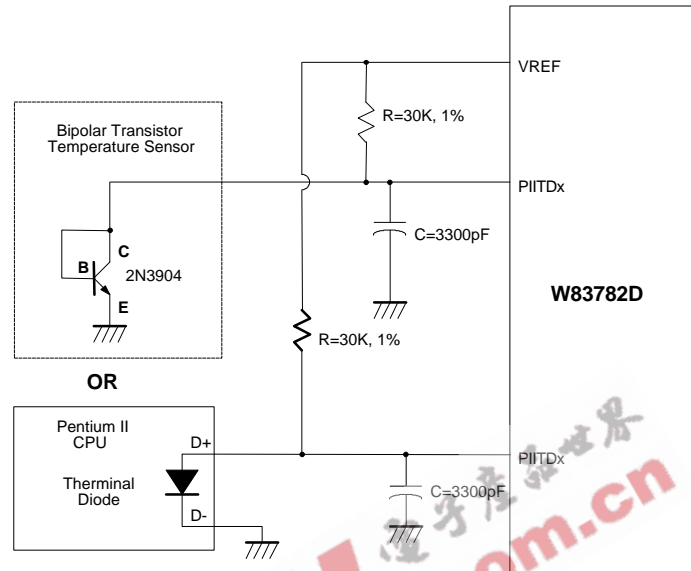

Figure 12.
The W83782D can alternate the thermistor to Pentium II™ (Deschutes) thermal diode interface or transistor 2N3904 and the circuit connection is shown as Figure 12. The pin of Pentium II™ D- is connected to power supply ground (GND) and the pin D+ is connected to pin PIITDx in the W83782D. The resistor  $R=30K$  ohms should be connected to VREF to supply the diode bias current and the bypass capacitor  $C=3300pF$  should be added to filter the high frequency noise. The transistor 2N3904 should be connected to a form with a diode, that is, the Base (B) and Collector (C) in the 2N3904 should be tied together to act as a thermal diode.